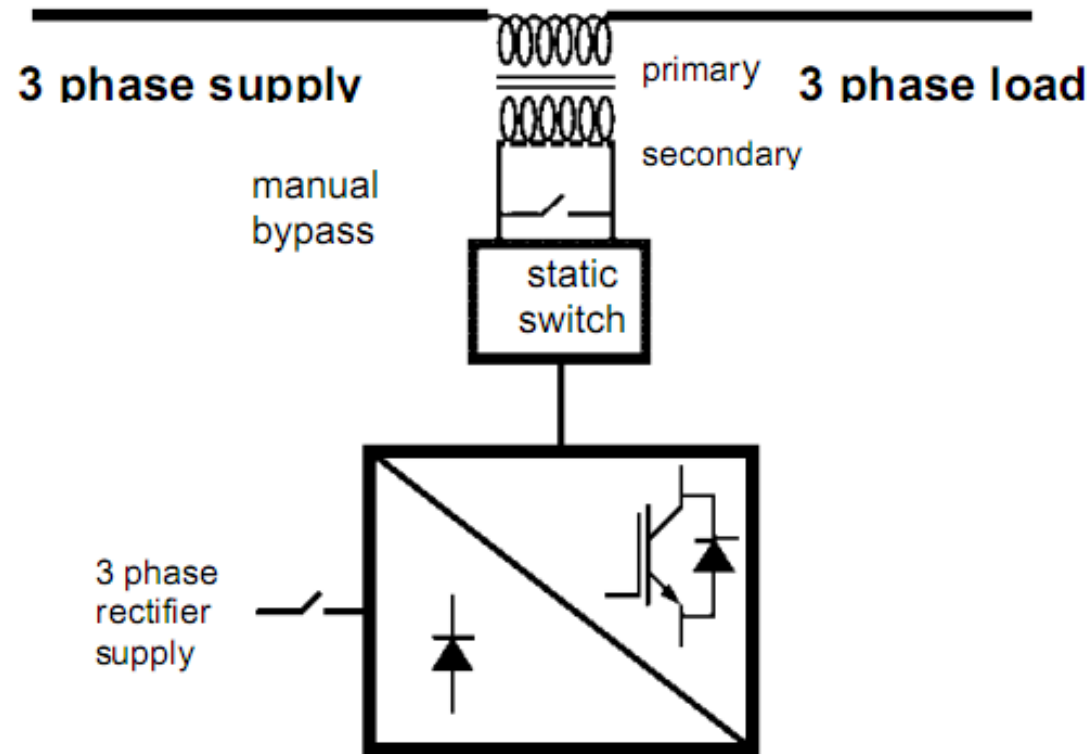

Fig. 5.20 AVC system one-line diagram
- The transformer primary is connected in series with the load as shown in fig. 5.20.